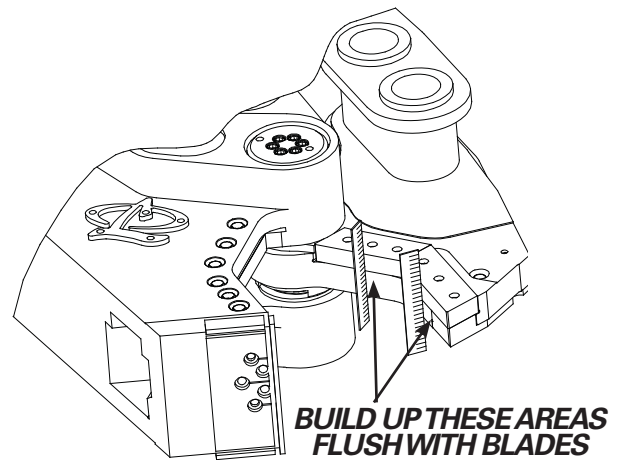

FIGURE 5-19
2. To determine how much build-up is required along the blade seats, place a straightedge across the blades. Repeat steps 4 and 5 to build this area flush with the blade (see figure 5-19).